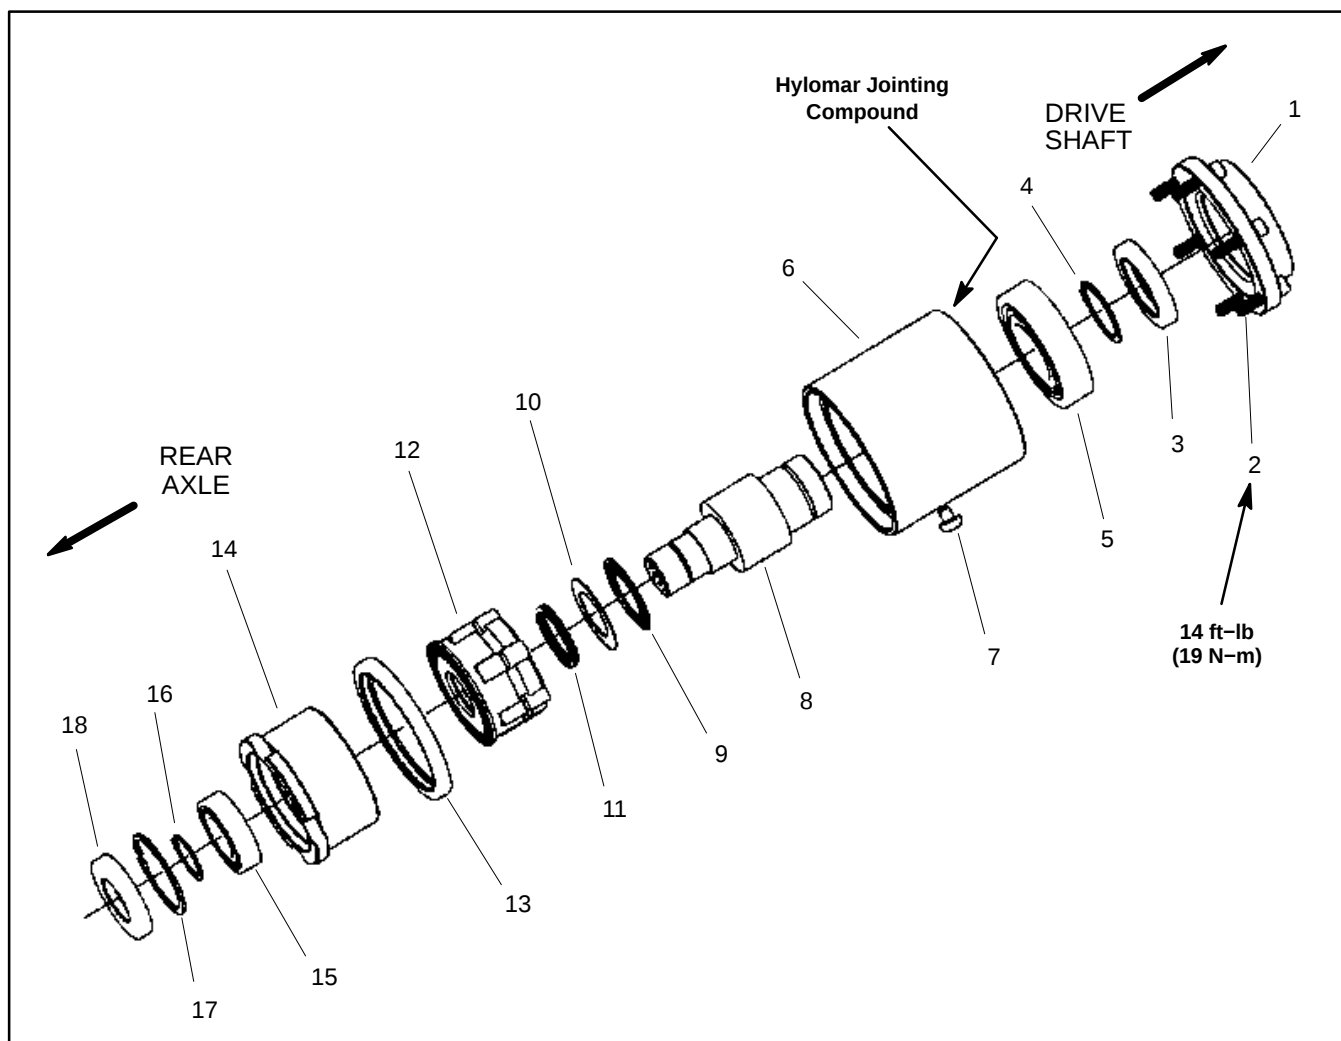

Figure 95
Disassembly (Fig. 95)
2. Disassemble clutch using Figure 95 as a guide.
Assembly (Fig. 95)
2. Assemble clutch using Figure 95 as a guide.
4. Apply Hylomar Jointing Compound (or equivalent) to end plate (item 1) mating surface before installing end plate.
5. Secure end plate with six (6) socket head cap screws. Torque screws 14 ft-lb (19 N-m).